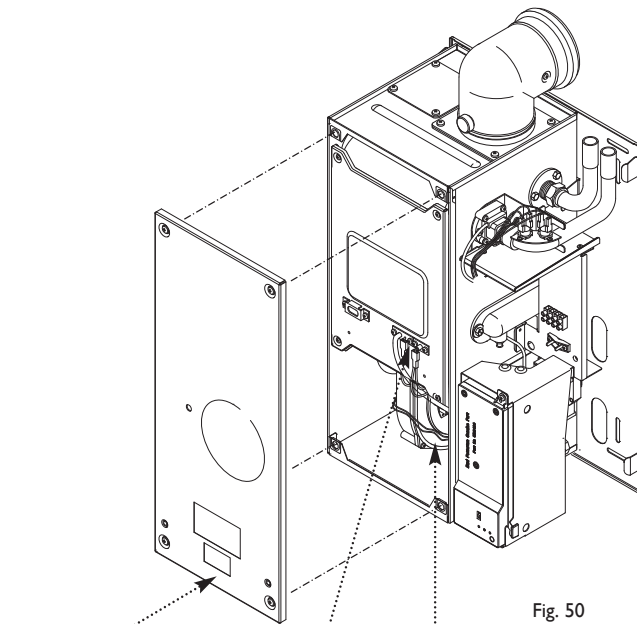

Fig. 50
1. Remove the airbox door panel by loosening the four 1/4 turn screws (Fig. 50).